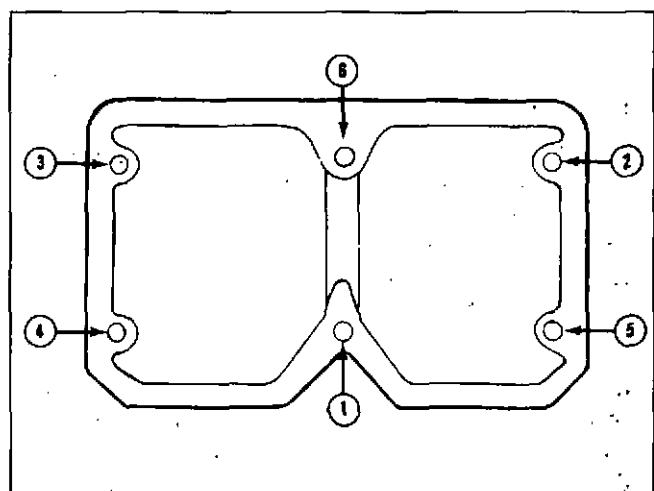

Fig. 14-69 (N11483). The Tightening Sequence For The Rocker Lever Housing Capscrews.
5. Tighten the capscrews in the sequence shown in Fig. 14-69 to 55 to 65 ft.-lbs. [75 to 89 N•m] torque.